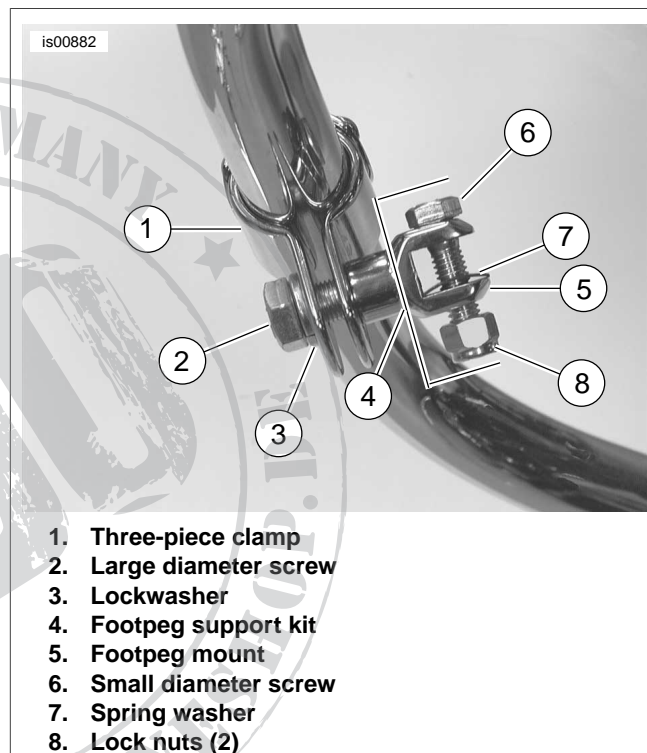

Figure 1. Footpeg Mounting Kit Installation (Footpeg Not Shown)
2. See Figure 1. Pull the 3-piece clamp tabs together with a clamp, or clamping pliers, and install the large diameter screw (2), lockwasher (3), and footpeg mount (5) as shown. Hand-tighten the screw at this time.